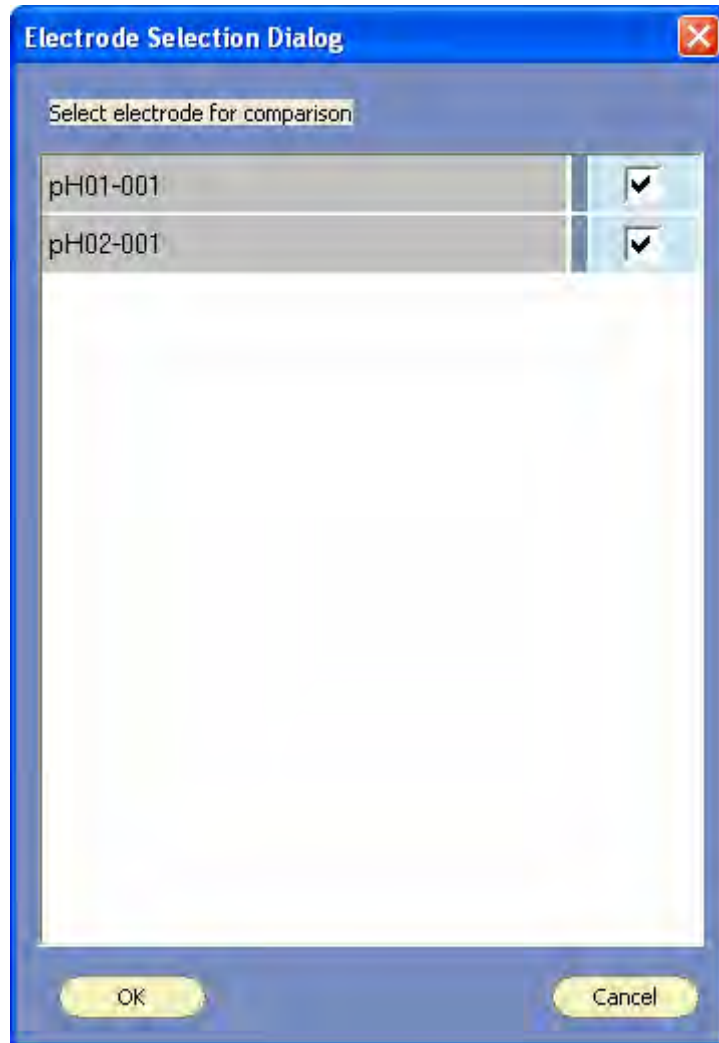

Figure 30 : Electrode selection for graph
6. You can select/unselect electrode from the graph. Click **Select/Unselect** button. Electrode Selection Dialog appears. (Figure 30)